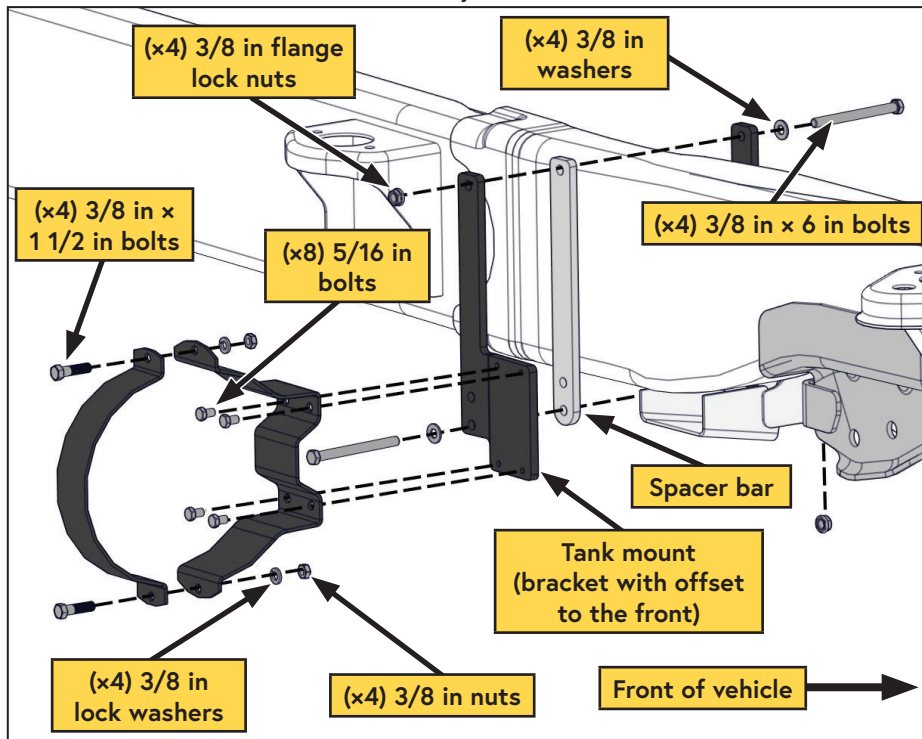

Figure 60 — Installing the AOST
The top bolt on the forward tank mount will need to be installed from the inside of the frame (Figure 60).
- ☐ Install the tank mounting brackets on the frame (Figure 60):
- ☐ Mount the inner portion of the tank mounting bracket clamp onto the tank mounts (Figure 60).
- ☐ Using a floor jack, raise the AOST up to the mounting bracket clamps and install the front and rear tank outer clamps (Figure 60).